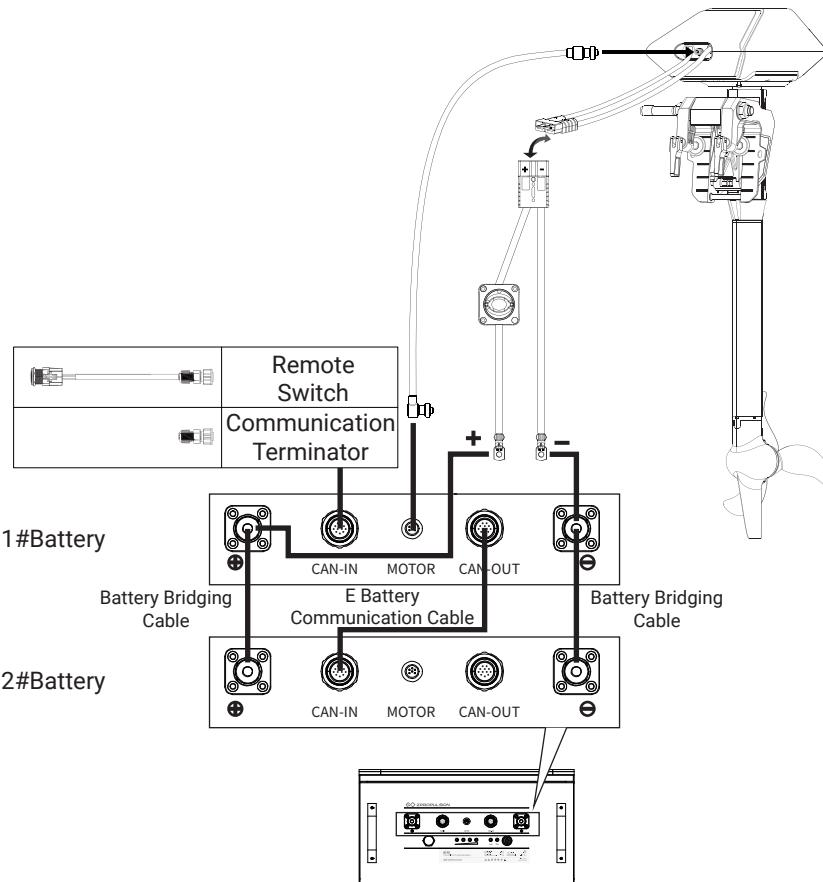

Figure 2-6
**⚠ When the parallel batteries are connected to the ePropulsion outboard motor, it needs to connect the outboard motor to 1# battery with the communication cable (refer to figure 2-6). And the outboard motor can only be connected with 1# battery.**
-  When multiple batteries of the same model are connected in parallel, you can only press the power button on the 1# battery (the battery connect to the machine, refer to figure 2-6) or the remote switch to turn on/off the batteries.